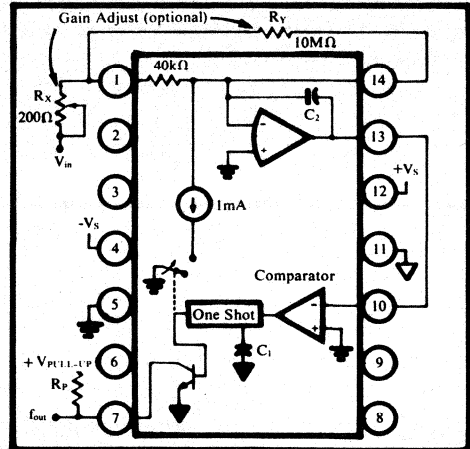

FIGURE 4. Connection Diagram for V/F Operation
**Gain Adjustment Procedure:** Connect  $R_X$  and  $R_Y$  as shown in Figure 4. Apply positive full scale voltage to the input and adjust  $R_X$  until 10kHz  $\pm 1\text{Hz}$  (VFC42) or 100kHz  $\pm 10\text{Hz}$  (VFC52) is obtained at  $f_{\text{OUT}}$ .  $R_X$  and  $R_Y$  should have temperature coefficients of  $< 500\text{ppm}$ . These external components will add less than 5 ppm/ $^{\circ}\text{C}$  to temperature drift.